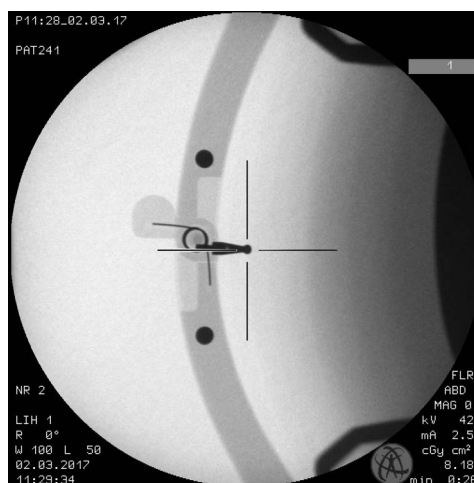

Fig. 11-3 Image in 0° UT
- Take an X-ray image and use the arrow keys to move the therapy head in the X and Y directions until the pin of the focus gauge appears in the centre of the cross-hairs (**FIG. 11-3**).